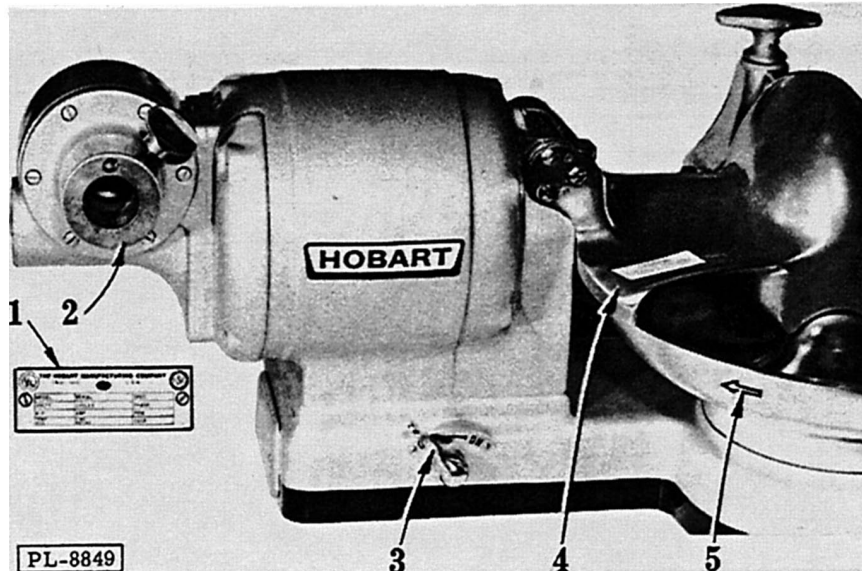
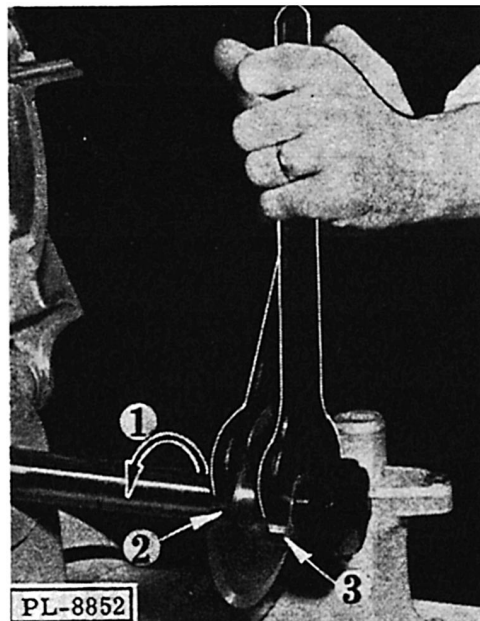

Fig. 1
Fig. 4
- A.1 Before making any electrical connections, CHECK THE SPECIFICATIONS ON THE NAME PLATE (1, Fig. 1) TO MAKE SURE THEY AGREE WITH THOSE OF YOUR ELECTRICAL SERVICE. Connect multi-phase motors so bowl will turn clockwise (see arrow) (5, Fig. 1). Knives will then turn downward (viewed from the front of the machine), (see arrow on knife shaft (1, Fig. 4)). The cord connector hole is tapped (1/2") and can be used for conduit connection.
- B.1 All knives are dangerous. CAUTION: KEEP HANDS FROM UNDER BOWL COVER. A caution decal is attached to the bowl cover (4, Fig. 1) as a reminder.
- B.2 The bowl cover is locked down (see section F) when the switch (3, Fig. 1) is "on". It cannot be unlocked until the switch is turned "off". If the bowl cover is removed or in a raised position, the switch cannot be turned "on". After the switch is turned off the knives rotate briefly.
D.2.1 To check clearance or make adjustments, disconnect the power supply (make sure knives are not turning) unlatch and raise bowl cover (1, Fig. 3). Loosen hand knob (2, Fig. 2) a couple of turns (without removing knife unit from machine). Hold a wrench on the flats of sleeve (2, Fig. 4) to keep sleeve from turning and slightly loosen nut (3, Fig. 4) with a second
G.1 The attachment drive (2, Fig. 1) is for a #12 attachment. Various #12 attachments